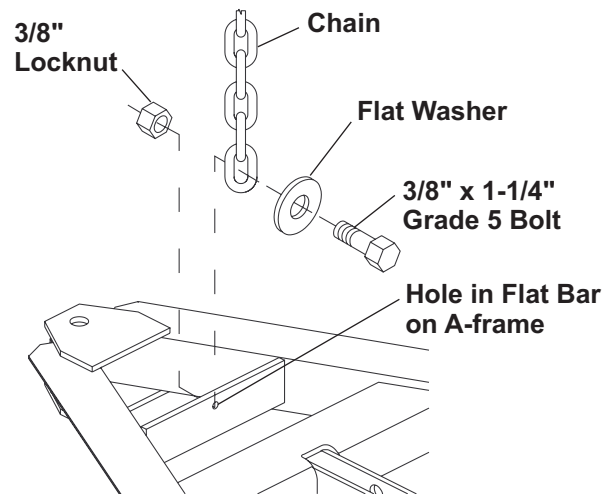

Figure 2
3. Use a 3/8" x 1-1/4" grade 5 bolt with 3/8" SAE flat washer to attach end link of chain to hole in flat bar on A-frame and secure with a locknut. Attach chain to side of flat bar towards wide end of A-frame. **(See Figure 2.)**